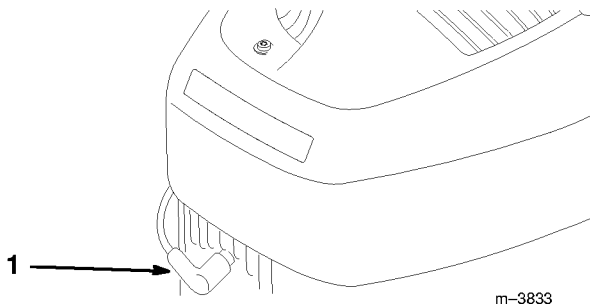

Figure 35
1. Stop engine and disconnect spark plug wire (Fig. 35) before installing or removing grass chute.